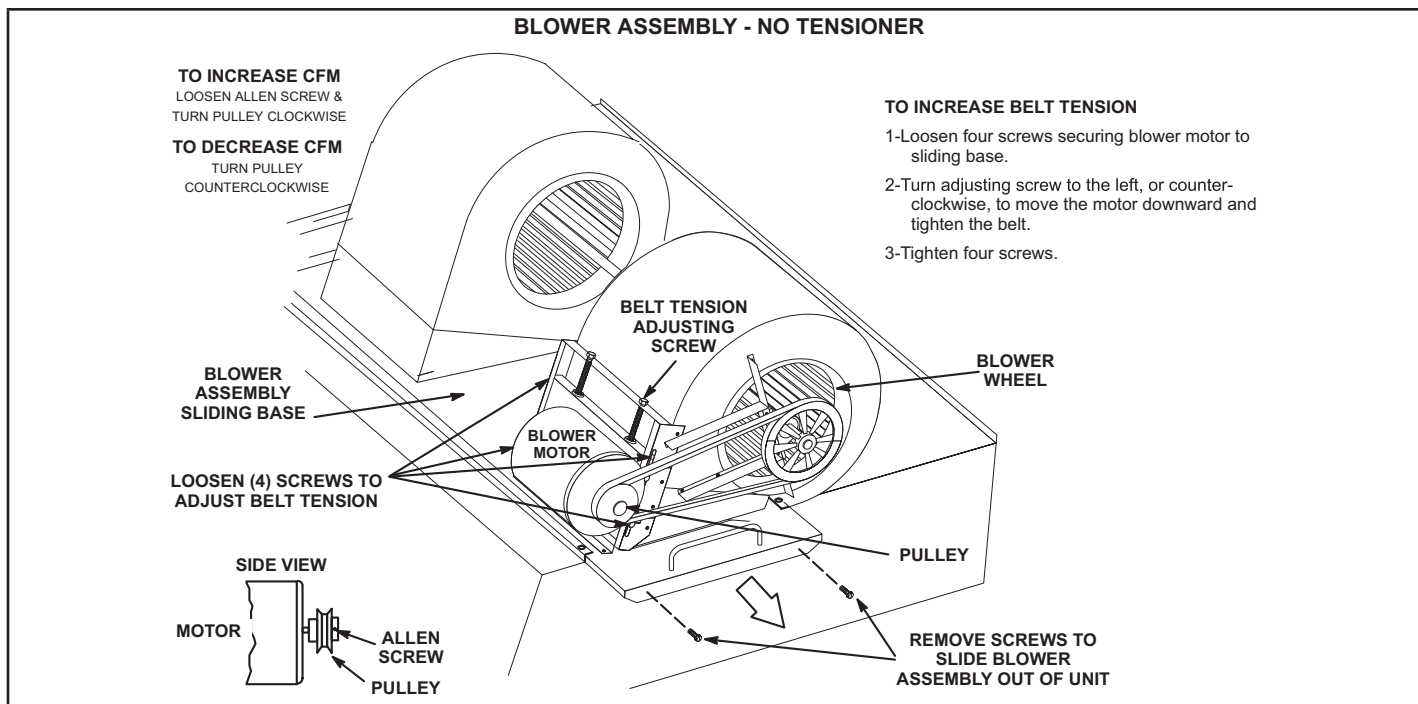

FIGURE 9
The blower compartment is located between the evaporator coil and the compressor / control section on the opposite side of the condenser coil. The blower assembly is accessed by disconnecting the blower motor wiring (and all other plugs) and removing the screws on either side of the sliding base. The base pulls out as shown in figure 9.
- 2 - Remove screws on either side of blower assembly sliding base. See figure 9.
- 4 - The blower RPM can be adjusted at the motor pulley. Loosen Allen screw and turn adjustable pulley clockwise to increase CFM. Turn counterclockwise to decrease CFM. See figure 9. Do not exceed minimum and maximum number of pulley turns as shown in table 5.
- 1 - Loosen four screws securing blower motor to sliding base. See figure 9.